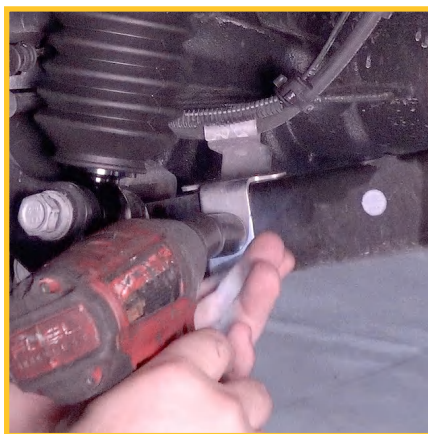

FIGURE 24
5. Reinstall the brake line bracket. Tighten to manufacturer's specifications. (FIGURE 24)